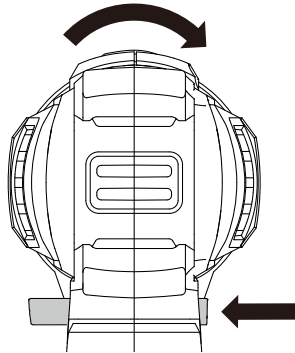

Figure 6-1
2. FORWARD AND REVERSE ROTATION CONTROL (SEE FIG. 6-1 & 6-2)